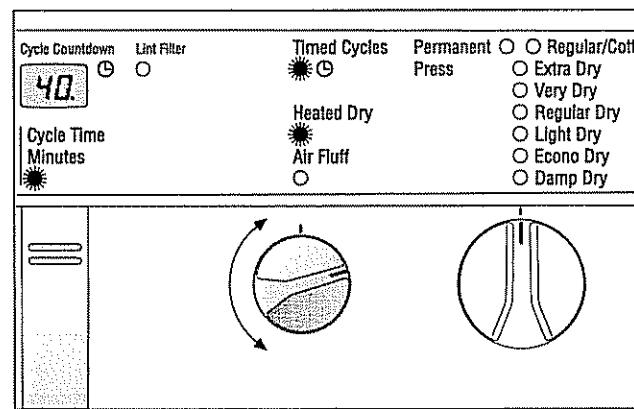

Figure 4.
b. To use Time Cycles (dryer runs for selected length of time) activate by turning the time program selector (see Figure 4):